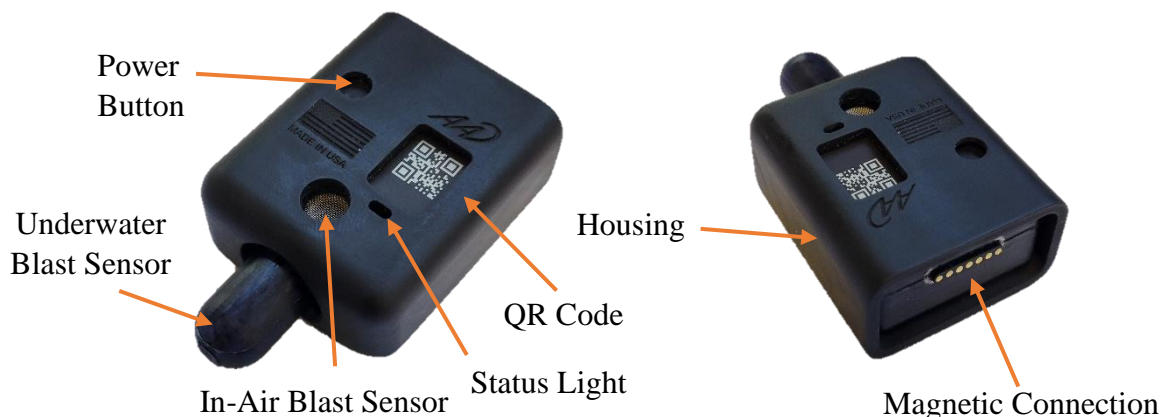

Figure 1. OmniBlast™ Water Generation 01 sensor.
- 1. Overview:** An OmniBlast™ Water sensor, demonstrating the locations of the underwater and in-air blast sensor locations, is shown in **Figure 1**. A customizable housing with various attachment method encloses the body of the sensor that has a power button, magnetic USB connector for data and charging, status light, and QR code (serial number). The omnidirectional underwater blast sensing element is at the exposed tip of the sensor. An in-air blast sensor is also integrated. Defined status lights are listed in **Table 2**.